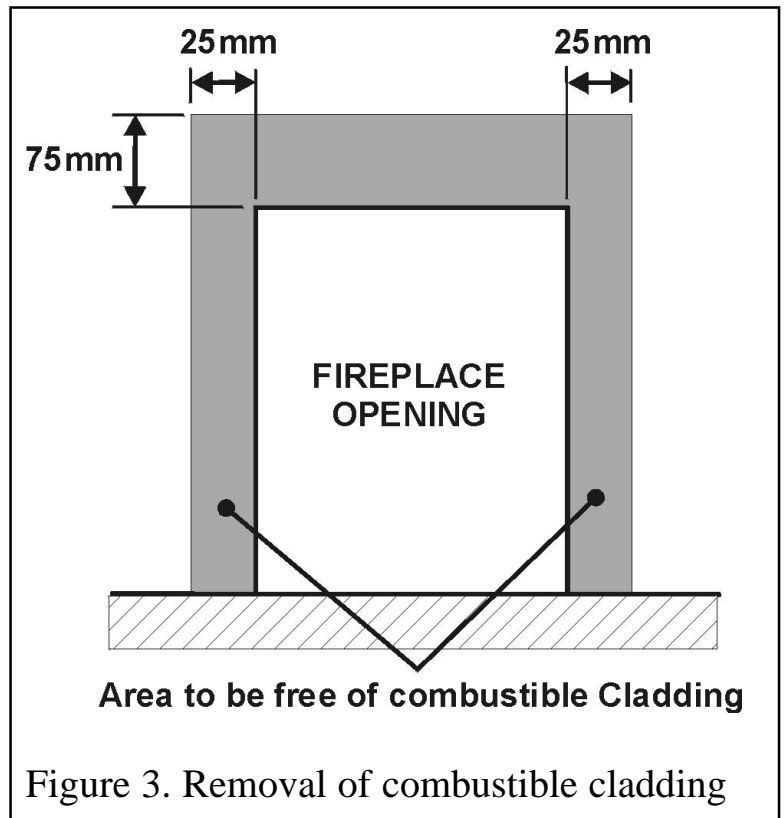

Figure 3. Removal of combustible cladding
4.13 If the appliance is to be fitted against a wall with combustible cladding, the cladding must be removed from the area shown in figure 3